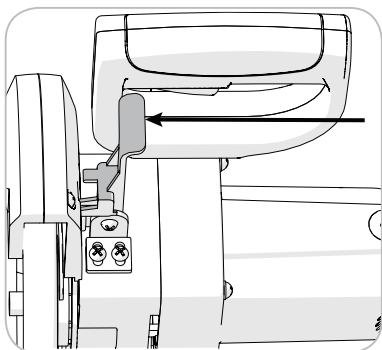

Fig. 16
- Press the lower guard locking lever to release the Cutting Head. **(Fig. 16)**